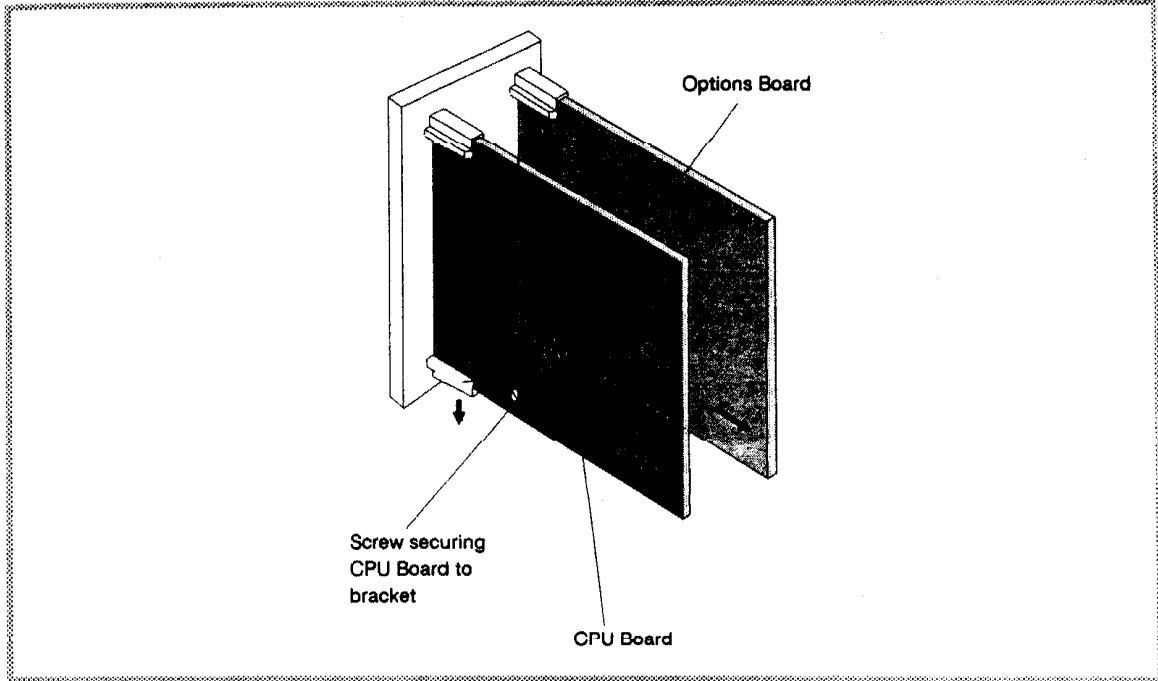

Figure 6-1 Detaching the PCBs from the Front Panel
2. Grasp the guides (projecting rearwards from the bottom of the front panel - see Figure 6-1) and pull them downwards until the bottom of the PCBs are released and can be withdrawn backwards; grasp the guides at the top of the front panel and disengage the top edges of the PCBs. The two PCBs may now be removed from the front panel assembly.